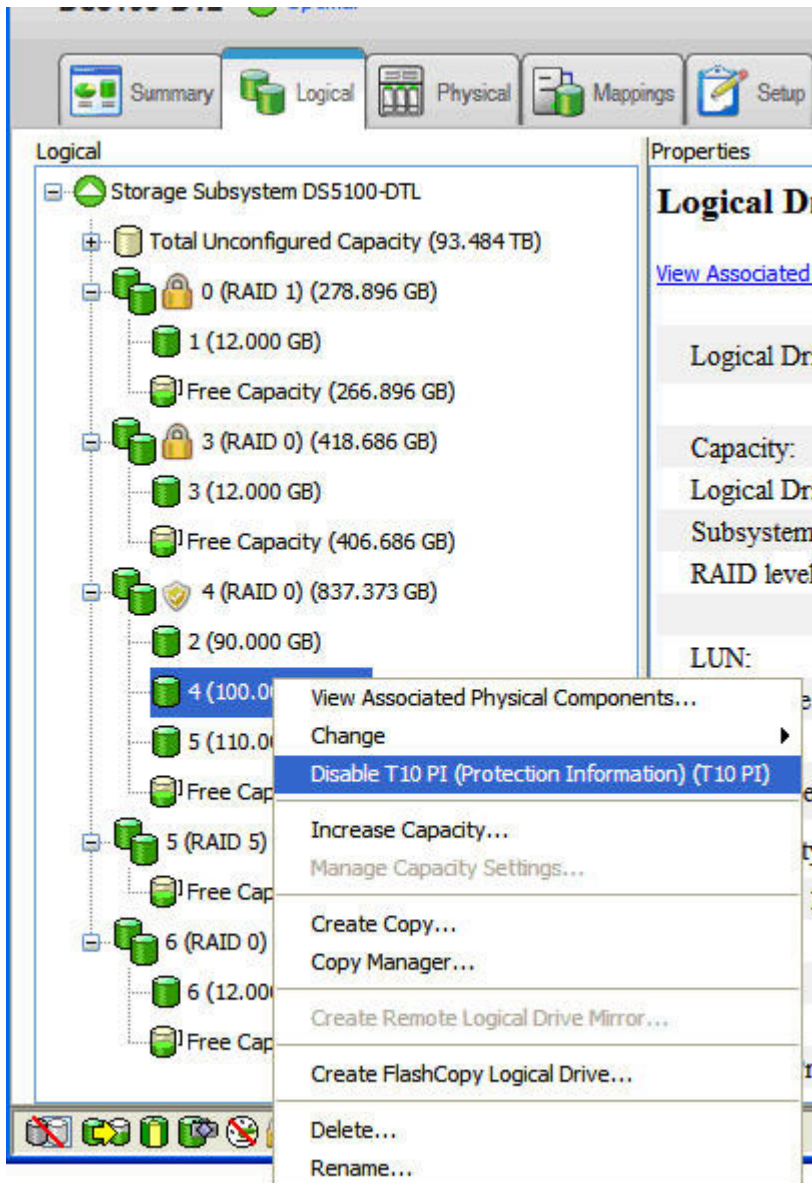

Figure 12. Disabling T10PI
- Right-click the drive that you are disabling T10PI capability and select **Disable T10PI (Protection Information) (T10PI)** as shown in Figure 12 on page 69.